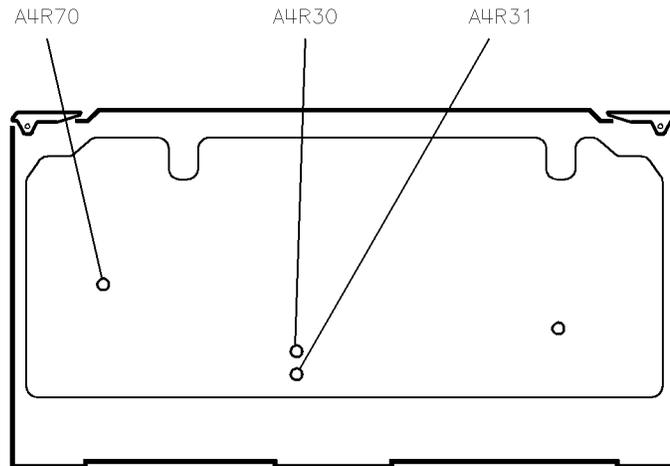

Figure 3-6. Fractional-N Reference and API Spurs Adjustment Locations
5. On the synthesizer, adjust A4R70 (see Figure 3-6) for minimum signal on the spectrum analyzer.
8. On the synthesizer, adjust A4R31 (see Figure 3-6) for minimum signal on the spectrum analyzer.
11. On the synthesizer, adjust A4R30 (see Figure 3-6) for minimum signal on the spectrum analyzer.